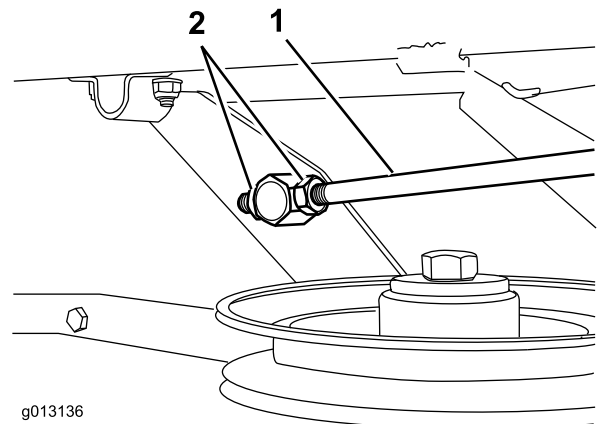

Figure 44
2. To obtain the proper height distance between the front and rear tips of the left blade, adjust the length of the linking rod (located on the left side of the machine) (Figure 44).